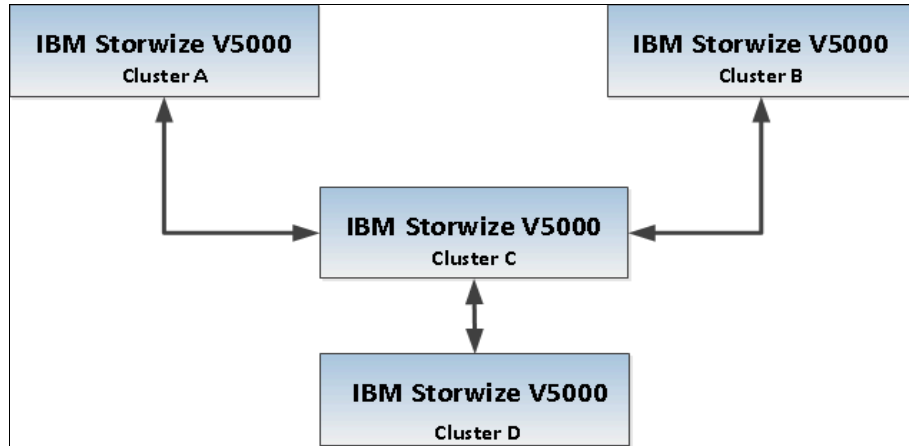

Figure 10-76 Star topology for IBM Storwize V5000
- ▶ Star topology, as shown in Figure 10-76.